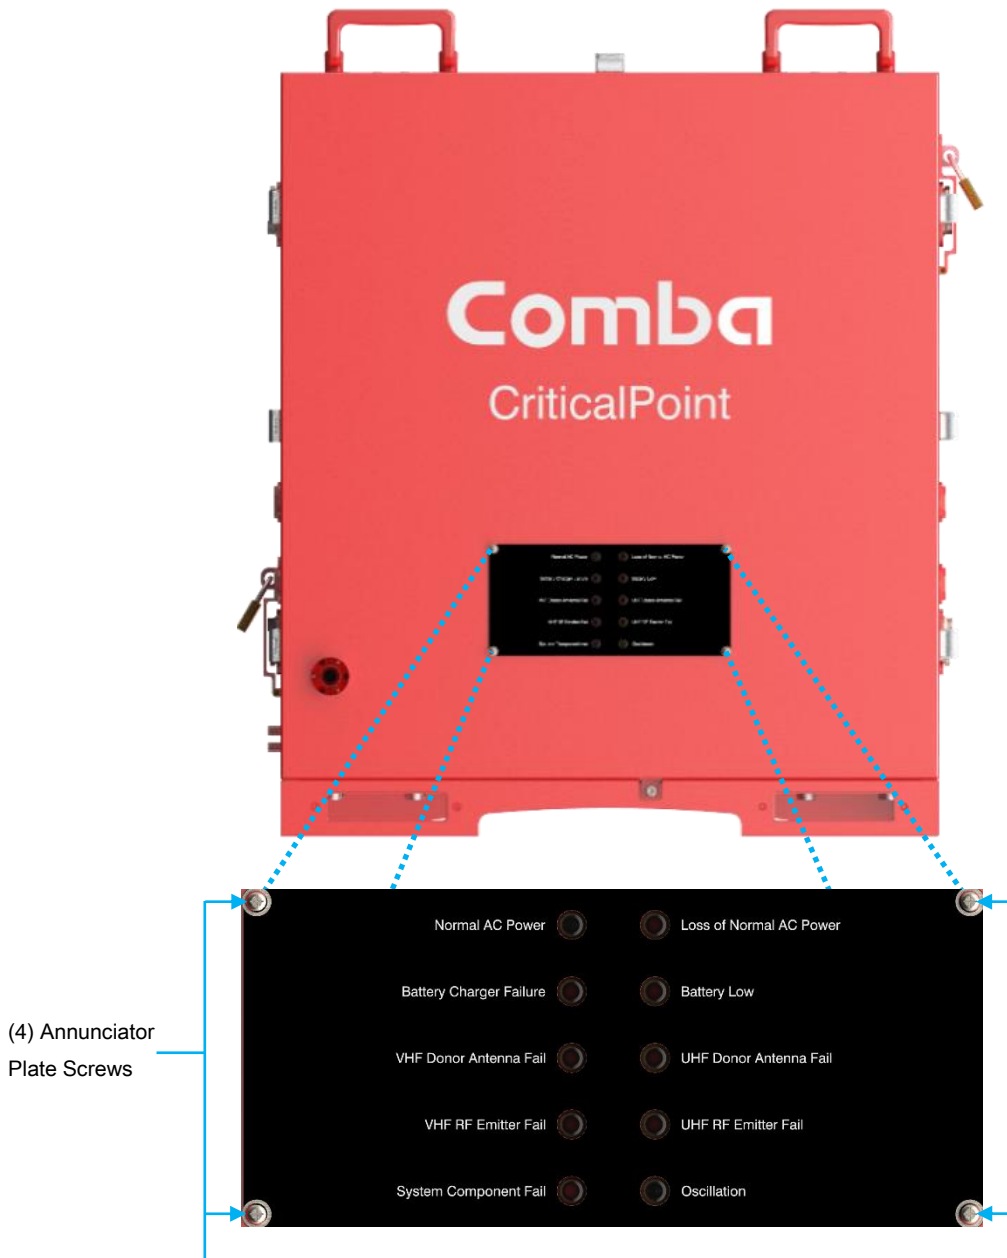

Figure 57: V3 BDA/MU/RU Annunciator Front Plate Installation
- Remove the 4 screws and washers holding the factory installed plate in place. This hardware will be reused. Do not discard! See Figure 57 for screw locations.